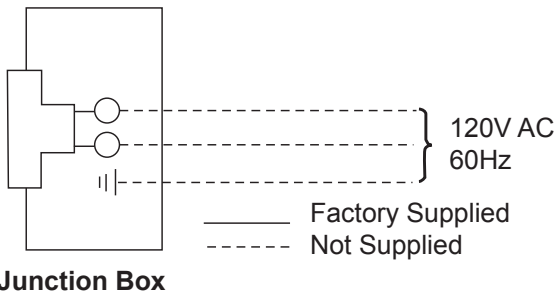

Figure 49 -
3. The junction box cover has a factory installed “romex” style strain relief connector. After connecting the wires, route the wire leads through this connector. Refer to the wiring diagram in *Figure 49*.